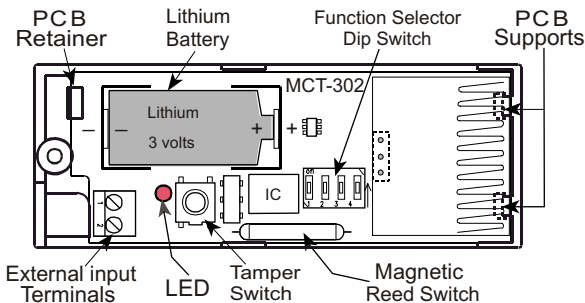

Figure 1: DMT315 with Cover Removed
- C. Flex out the circuit board retainer (Figures 1 and 5) and detach the circuit board from the base.
**A. DIP Switch Operation:** See Figure 1 for Location of DIP switch. You can configure the DMT315 to accommodate certain situations. Each switch lever allows you to select one of two options. The default settings are adequate for most installations. If you are not using the built in reed switch you must disable it by setting DIP switch number one to the OFF position.